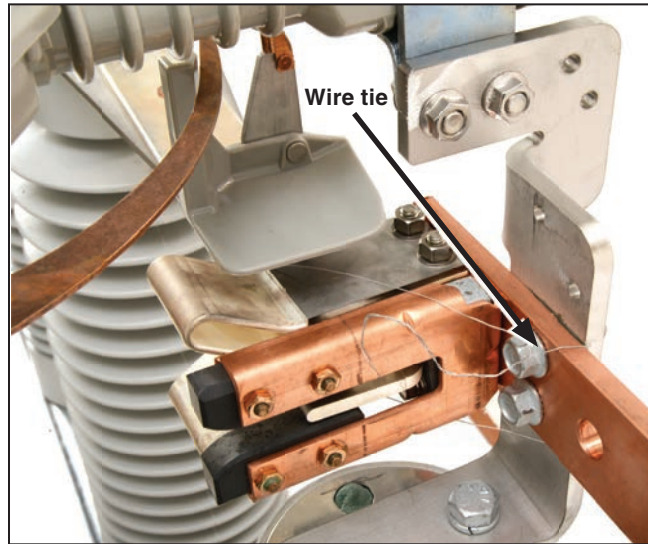

Figure 9. Tie the switch blade to the main contacts.
**STEP 6.** To minimize time-consuming final adjustments, make sure the switch is fully closed. Tie the switch blades to their stationary main contact assemblies using a wire tie. See Figure 9.